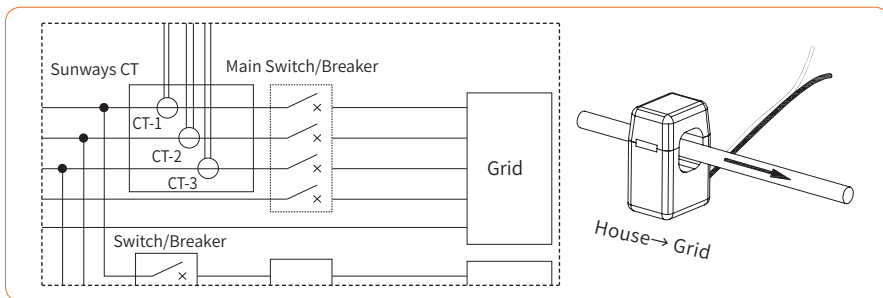

Figure 4-34 CT connection diagram
① The current transformer, also called CT, is usually installed on the fire wires between the house loads and the power grid, as shown in Figure 4-34.